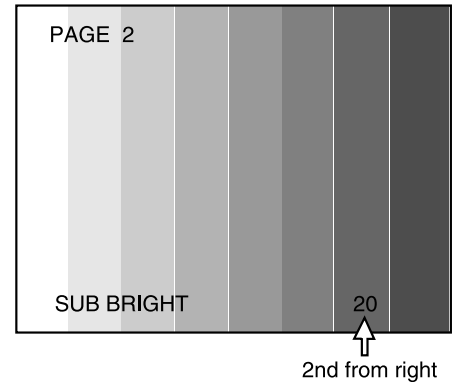

Fig. 2-2
1. Using the volume keys on the jig remote controller, adjust the scale of the second last from right to be slightly brightened. (Fig. 2-2)